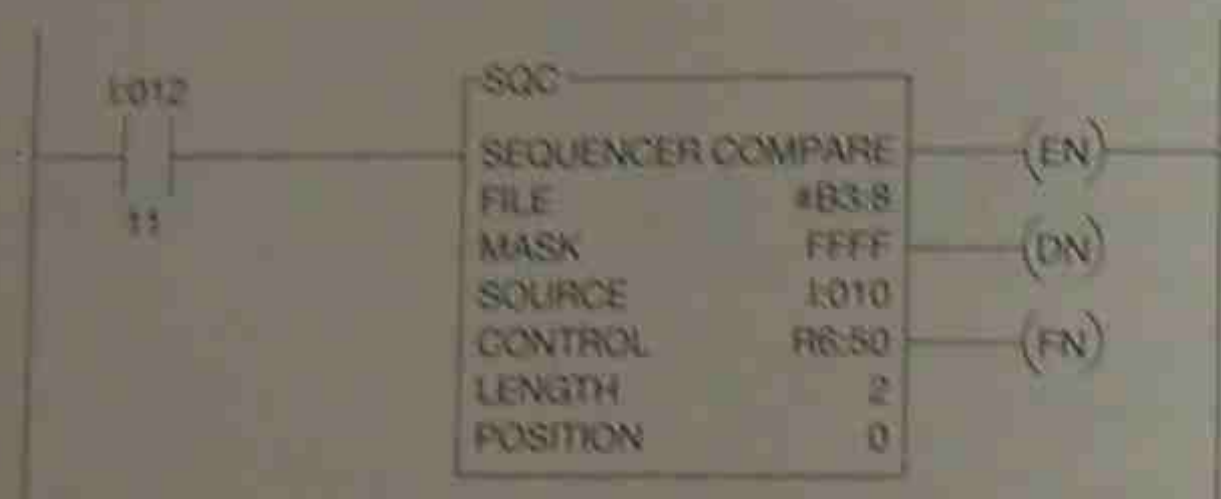

Figure 17-10 Sequencer Compare Instruction (SQC)
Another Allen-Bradley sequencer instruction is the Sequencer Compare Instruction (SQC). This instruction compares all of the unmasked bits of the source word to the current step of the sequencer file. If all of the bits match, bit 08 of the control word is set to 1. Bit 8 is the Found Bit (FD). This instruction can be used to compare the status of a machine/equipment input devices with what is normal operation. This is a great way to do machine diagnostics. Figure 17-10 shows a SQC instruction.